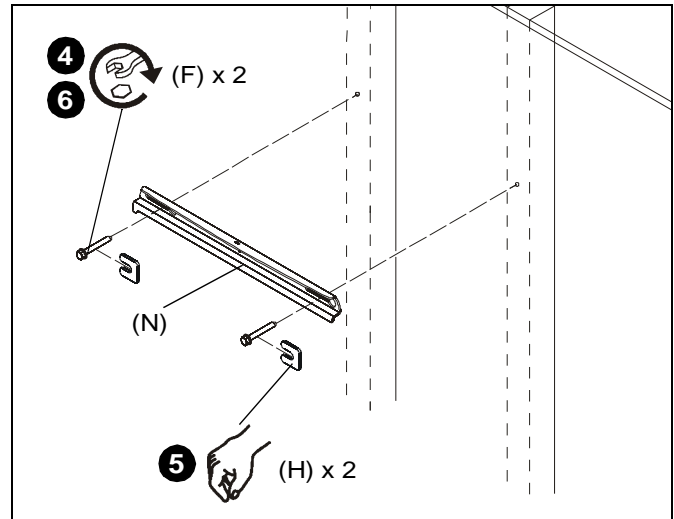

Figure 2
4. Loosely attach wall rail (N) to wall using two 5/16- 2 1/2 flange head lag screws (F). (See Figure 2)
5. Place two installation spacers (H) over two 5/16 x 2 1/2" flange head lag screws (F). (See Figure 2)
6. Tighten two screws (F) to secure upper wall rail (N) to wall. (See Figure 2)